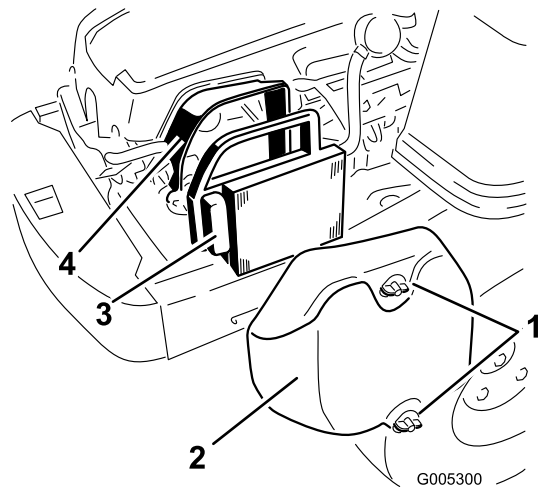

Figure 24
1. Remove the air cleaner cover (Figure 24).
2. Remove the air cleaner element with the integral rubber seal (Figure 24).
5. Install the air cleaner element with the pleated side “out” and seat the rubber seal onto the edges of the air cleaner base (Figure 24).
6. Reinstall the air cleaner cover and secure with the two knobs (Figure 24).